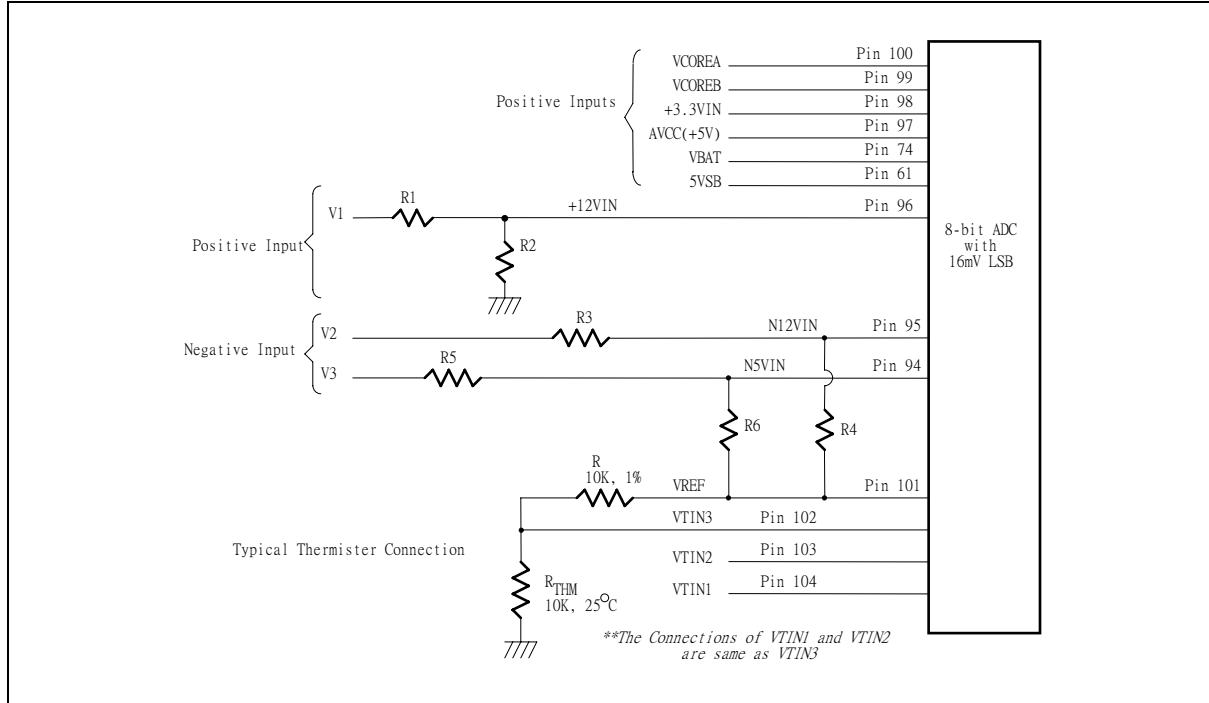

Figure. 8.2
The maximum input voltage of the analog pin is 4.096V because the 8-bit ADC has a 16mV LSB. Really, the application of the PC monitoring would most often be connected to power suppliers. The CPU V-core voltage, +3.3V, battery and 5VSB voltage can directly connected to these analog inputs. The +12V, -12V and -5V voltage inputs should be reduced a factor with external resistors so as to obtain the input range. As Figure 8.2 shows.
The negative voltage should be connected two series resistors and a positive voltage VREF (is equal to 3.6V) . In the Figure 8.2, the voltage V2 and V3 are two negative voltage which they are -12V and -5V respectively. The voltage V2 is connected to two serial resistors then is connected to another terminal VREF which is positive voltage. So as that the voltage node N12VIN can be obtain a posedge voltage if the scales of the two serial resistors are carefully selected. It is recommended from Winbond that the scale of two serial resistors are  $R3=232K\Omega$  and  $R4=56K\Omega$ . The input voltage of node N12VIN can be calculated by following equation.
The W83627HF can connect three thermistors to measure three different envirment temperature. The specification of thermistor should be considered to (1)  $\beta$  value is 3435K, (2) resistor value is 10K ohms at 25°C. In the Figure 8.2, the themistor is connected by a serial resistor with 10K Ohms, then connect to VREF (Pin 101) .